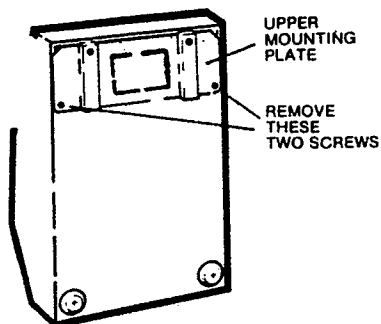

FIG. 2A. REMOVING MOUNTING PLATE
STEP 1. Remove the upper mounting plate on back of heater by moving the two screws which secure it. (Figure 2A)